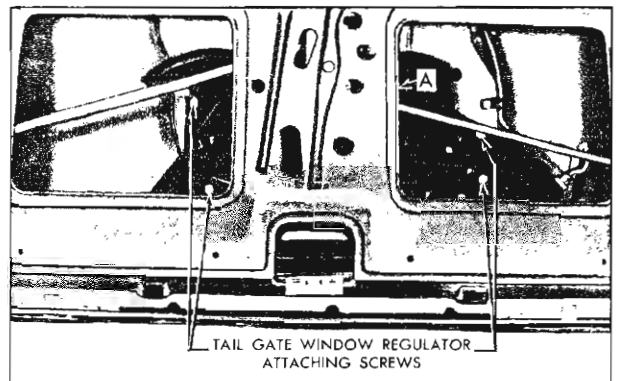

Fig. 5-11 Window Regulator
2. To correct a condition where the glass is "cocked" in the glass run channels, loosen window regulator attaching screws (Fig. 5-11), rotate regulator assembly clockwise or counterclockwise, as required, to eliminate "cocked" condition.
2. Detach tail gate lock remote control right connecting rod from remote control at "A" (Fig. 5-11).
4. Remove regulator attaching screws through access holes at locations shown in Fig. 5-11. Remove regulator assembly through large access hole.